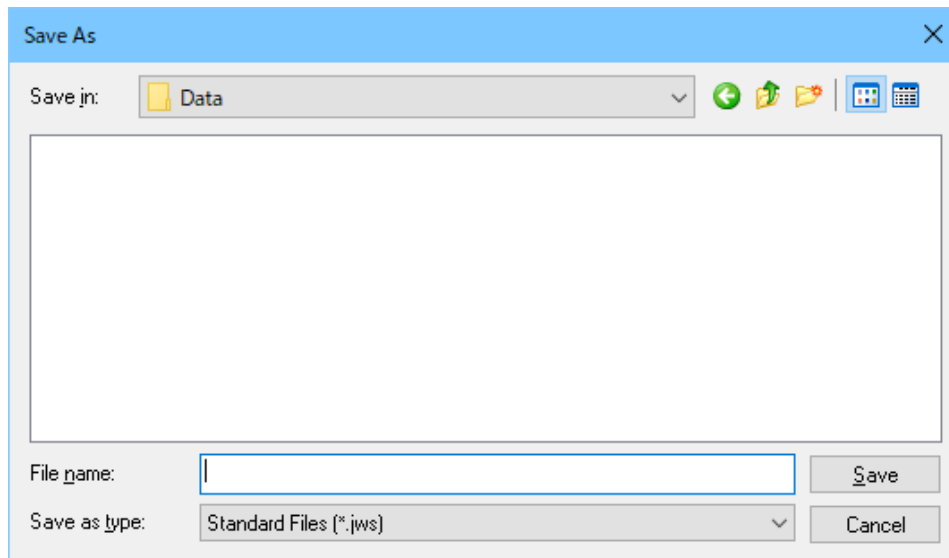

Figure 5.16 [Save As] dialog box
- (1) Select [Save As...] from the [File] menu in the [Spectra Analysis] program to display the dialog box in Figure 5.16.